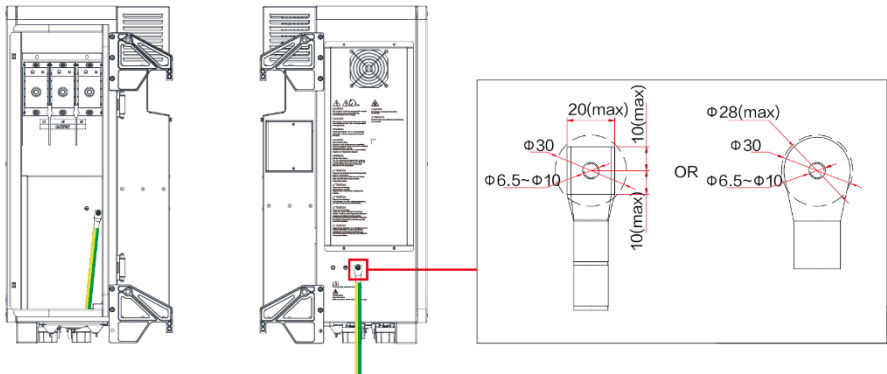

Figure 4-5 Grounding Methods
- a) Internal grounding: connect PE wire to internal grounding hole located on the lower right side of the AC terminal, as shown in Figure 4-5 on the left (refer to section 4.4.2).
- b) External grounding: connect PE cable to external PE point located at the bottom of the machine next to the AC port, as shown in Figure 4-5 on the right. **Note:** After wiring, external grounding position needs to be coated with glue or paint, to improve corrosion resistance.